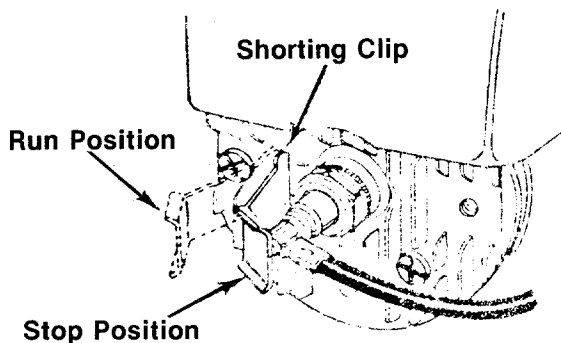

FIGURE 10. Model 011 Only
**Model 011 Only**—Stop engine by moving the spark plug shorting clip against the spark plug. See figure 10.